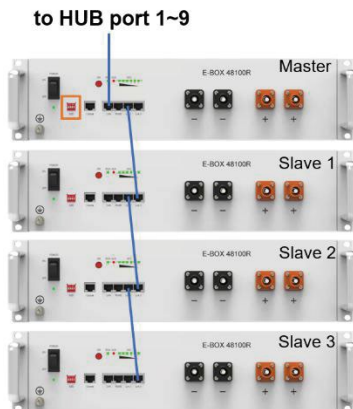

Figure 4
2. Connect the batteries into a group. Link one battery Port 0 to the other battery Port 1 one by one. Note that leave the Port 0 of the master battery empty. Each group supports up to 8 batteries in parallel. See Figure 4 for details